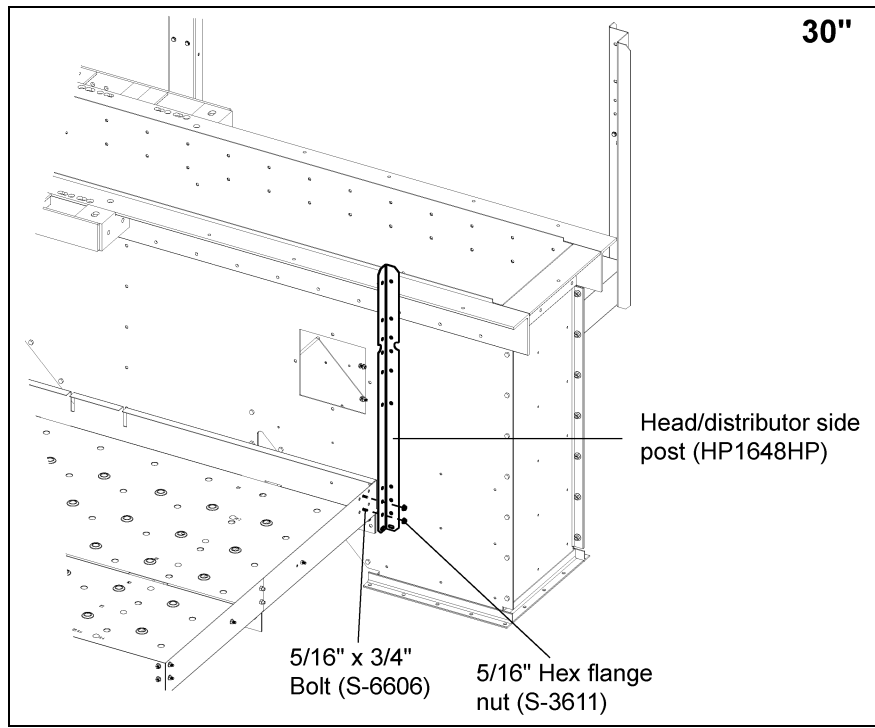

Figure 10E
1. Install side post (HP1648HP) to decking. *(See Figure 10E.)*